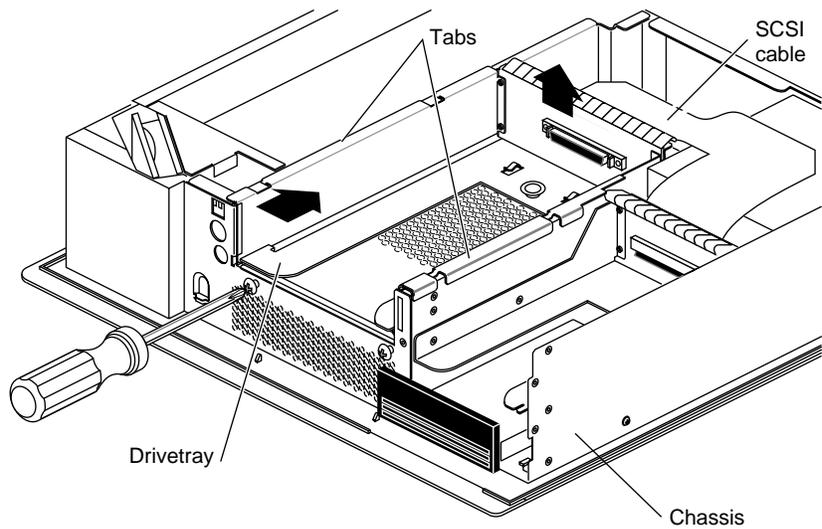

Figure 2-8 Removing the Drive Tray
- Push the drive tray toward the back of the workstation, and pull up on the tabs on the top of the drive tray to remove it, as shown in Figure 2-8.